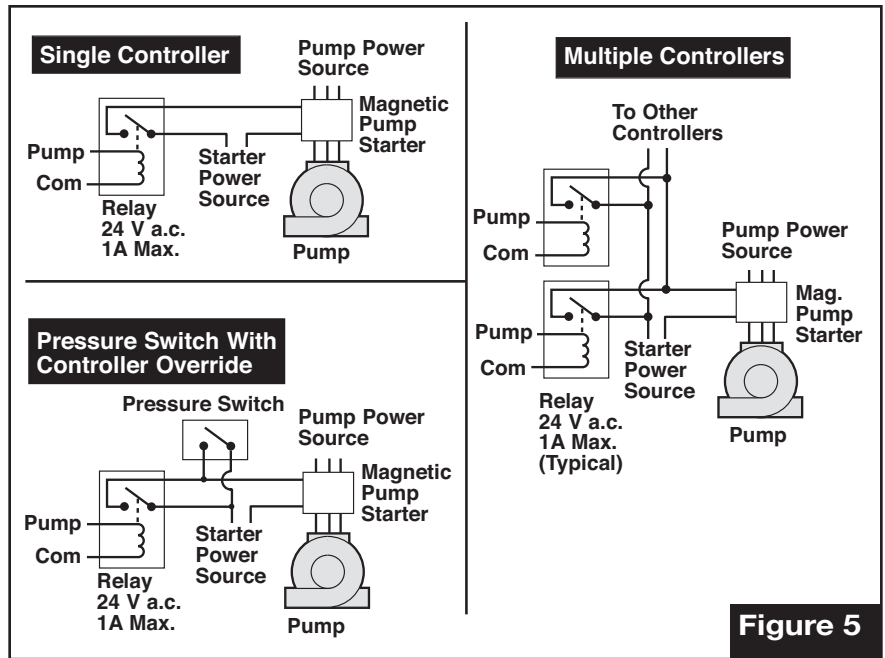

Figure 5
2. If an automatic pump start is required, refer to the applicable wiring diagram in Figure 5 (page 4) and install accordingly.